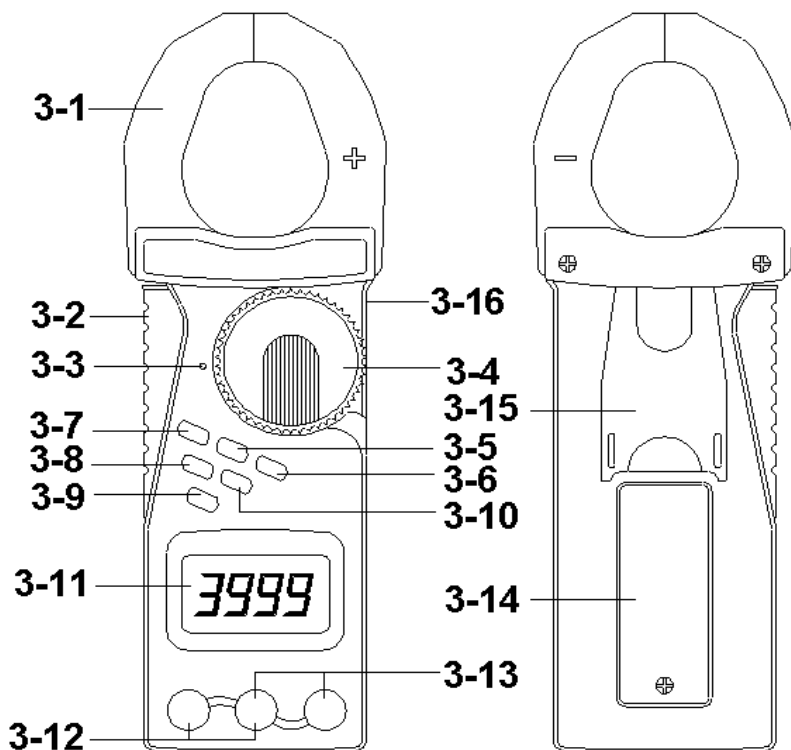

Fig. 1
- 3) If measure " DCV ", select the " Function rotary switch " (3-4, Fig. 1) to the " V " position then push the " FUNC. button " (3-9, Fig. 1) for display show "  " .
- 4) If measure " ACV ", select the " Function rotary switch " (3-4, Fig. 1) to the " V " position then push the " FUNC. button " (3-9, Fig. 1) for display show "  " .
- 6) Under the operation of " auto range " mode, push the " Range button " (3-10 Fig. 1) will hold the range.
- 3) Select the " Function rotary switch " (3-4, Fig. 1) to the " Ω " position then push the " FUNC. button " (3-9, Fig. 1) for display show " Ω " .
- 5) Under the operation of " auto range " mode, push the " Range button " (3-10 Fig. 1) will hold the range.
- 3) Select the " Function rotary switch " (3-4, Fig. 1) to the
- "  " position then push the " FUNC. button " (3-9, Fig. 1) for display show "  " .
- 3) Select the " Function rotary switch " (3-4, Fig. 1) to the "  " position then push the " FUNC. button " (3-9, Fig. 1) for display show "  " .
- 1) Select the " Function rotary switch " (3-4, Fig. 1) to the " 2000A " position then push the " FUNC. button " (3-9, Fig. 1) for display show "  ".
- 2) Press the " Trigger " (3-2, fig. 1) to open the " Current Sensor Jaws " (3-1, Fig. 1) & clamp on the measure conductor only.
However if push the " Range button " (3-10, Fig. 1) will hold the range.
- 2) Push the " DCA zero button " (3-5, Fig. 1) at least 2 seconds to let the display show " ZERO " value.
- 3) Press the " Trigger " (3-2, fig. 1) to open the " Current Sensor Jaws " (3-1, Fig. 1) & clamp on the measure conductor only.
- 3) If measure " μ A " (400 μ A, 4000 μ A), select the " Function rotary switch " (3-4, Fig. 1) to the " μ A " position then push the " FUNC. button " (3-9, Fig. 1) for display show "  ".
- 4) If measure " mA " (40 mA, 400 mA), select the " Function rotary switch " (3-4, Fig. 1) to the " mA " position then push the " FUNC. button " (3-9, Fig. 1) for display show "  ".